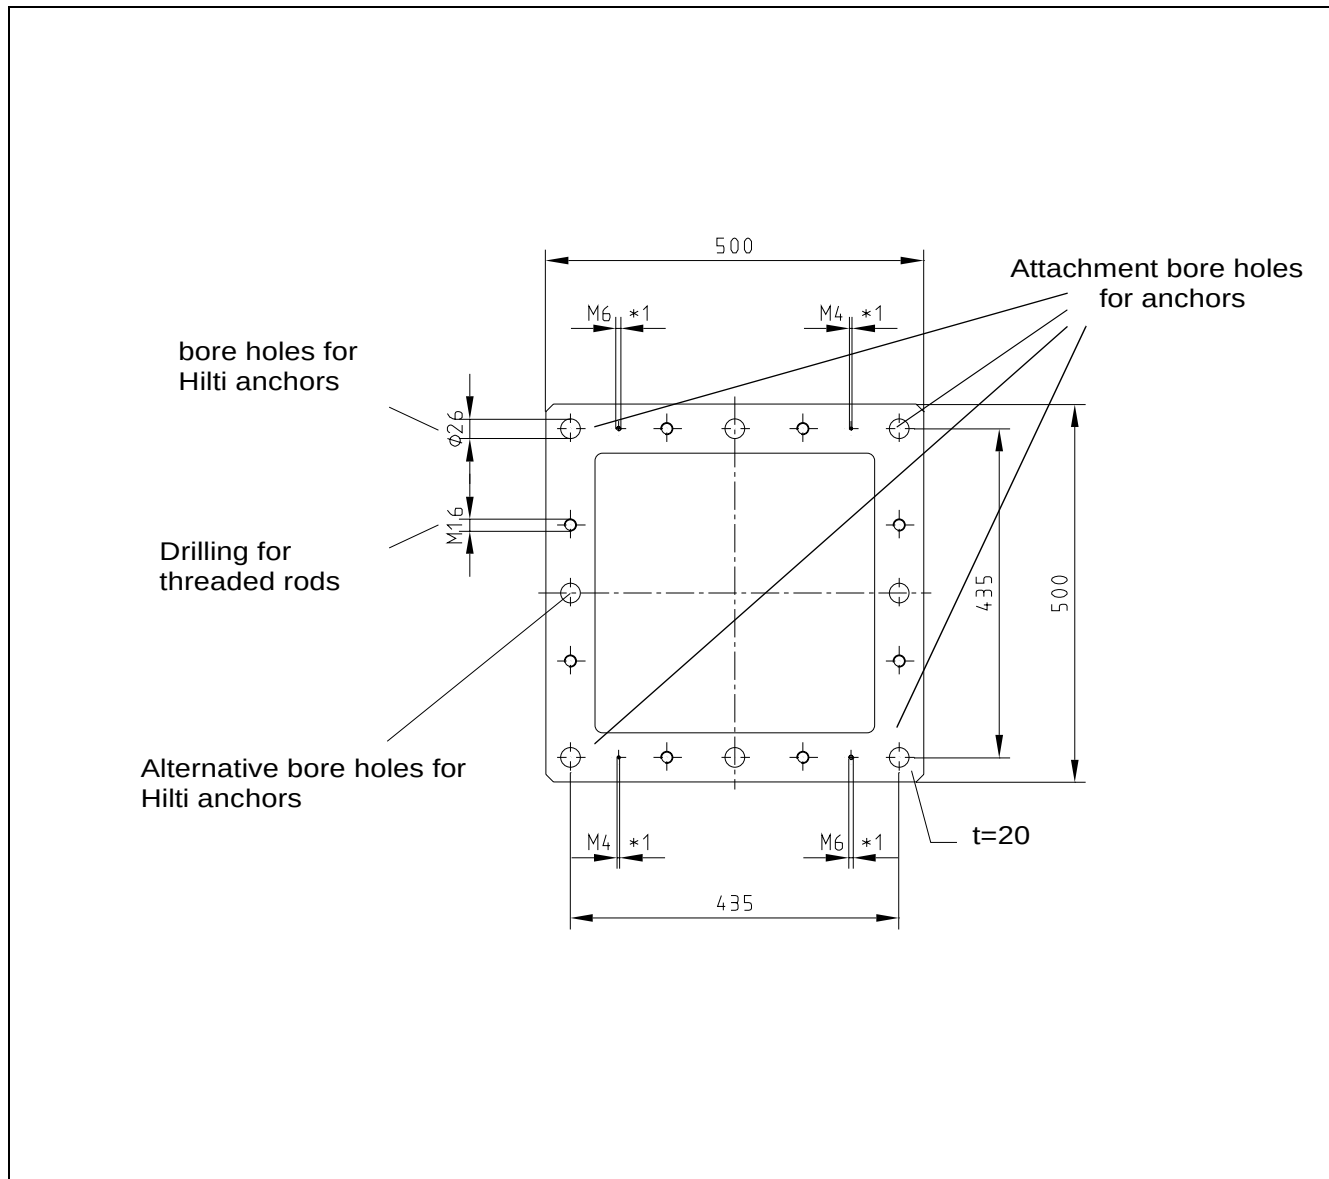

Fig. 7 Ceiling anchor plate, monitor suspension system
- Mark the drill holes for the anchor plate according to the room planning diagram. One side of the plate should be aligned parallel to the closest wall, see Fig. 7.
- The on-site protective conductor should be attached to one of the specified screw holes with the appropriate screw; see *1/Fig. 7.